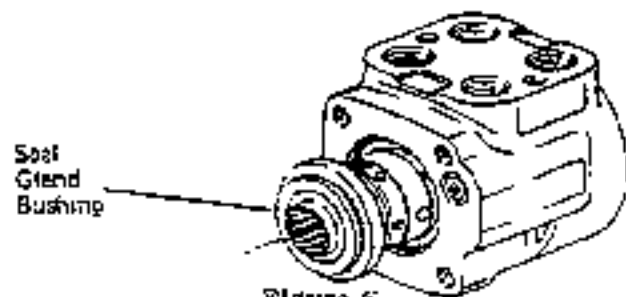

Figure 6
12. Rotate spool and sleeve until pin is horizontal. Push spool and sleeve assembly forward with your thumbs just far enough to free gland bushing from housing, see Fig. 6. Remove bushing.